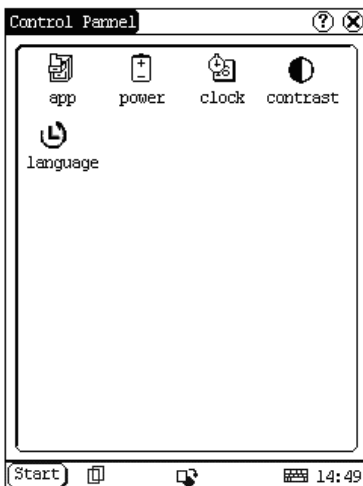

Fig 4-29
- 3) Open the Control Panel interface. (See Fig 4-29)